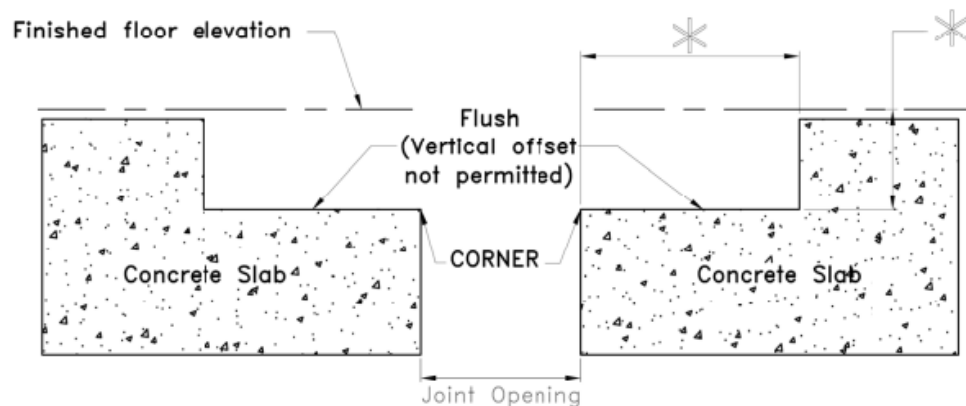

FIGURE 1
1. Prior to beginning work, installer shall inspect opposing concrete slabs, corners and blockouts for acceptability. For repair (if required) refer to step 2, also, measure joint opening for proper size as called for on shop drawings or CAD detail. *See shop drawings or CAD detail for specific blockout information. **SEE FIGURE 1**